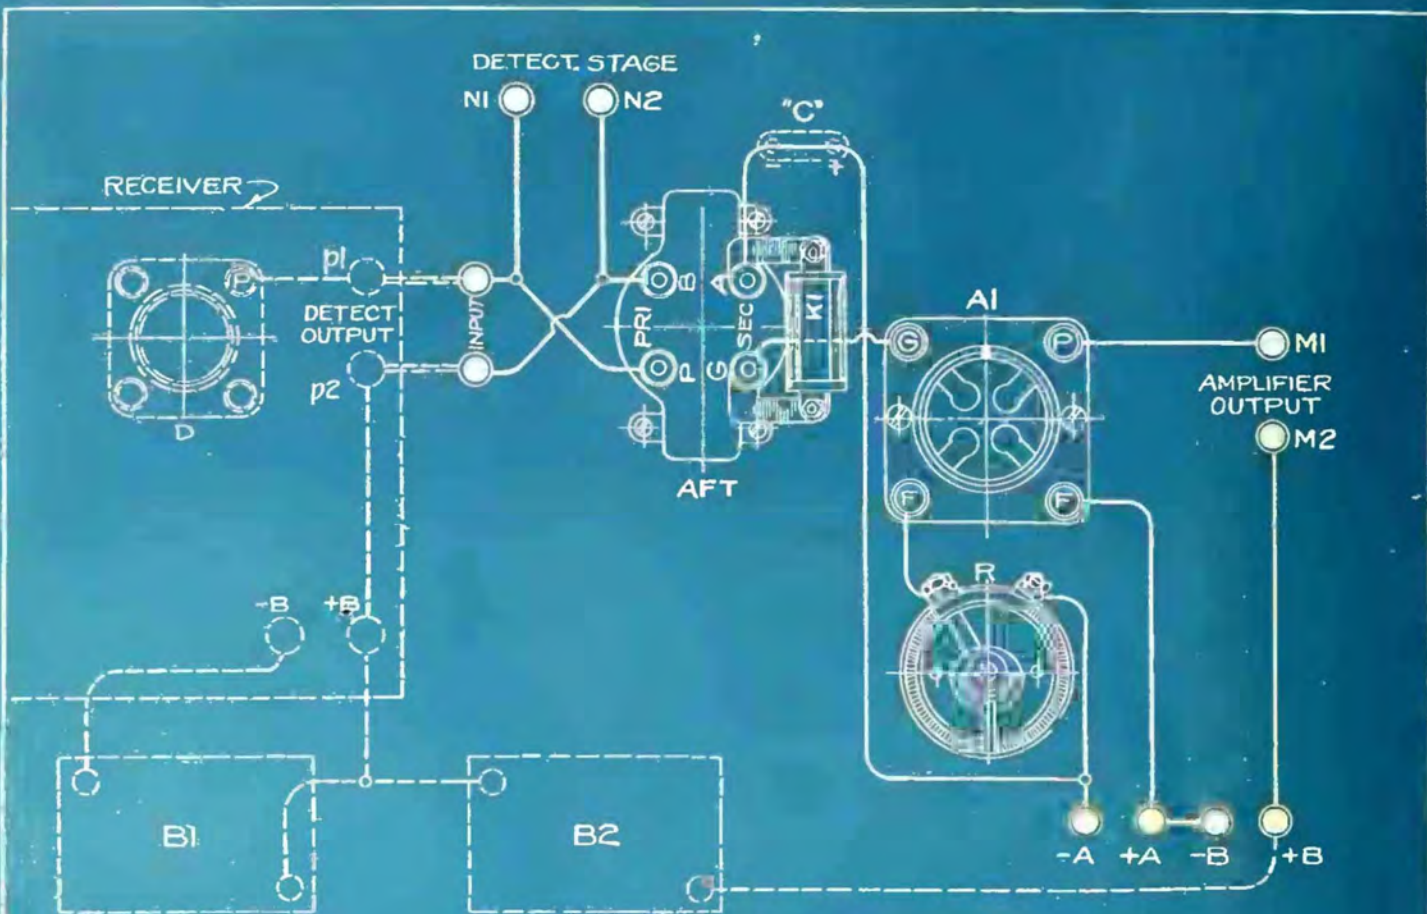

FIG. 1.
PROBABLY the simplest audio amplification unit is the single tube transformer coupled amplifier, shown in picture form by Fig. 1 of the blueprints. At the left, we have the radio receiver unit shown in dotted lines to distinguish it from the amplifier unit, and in the tuner-detector receiver is shown the single detector tube socket (D). This single "stage" of audio amplification will make the faint signals of distant stations much louder on the headset, and will